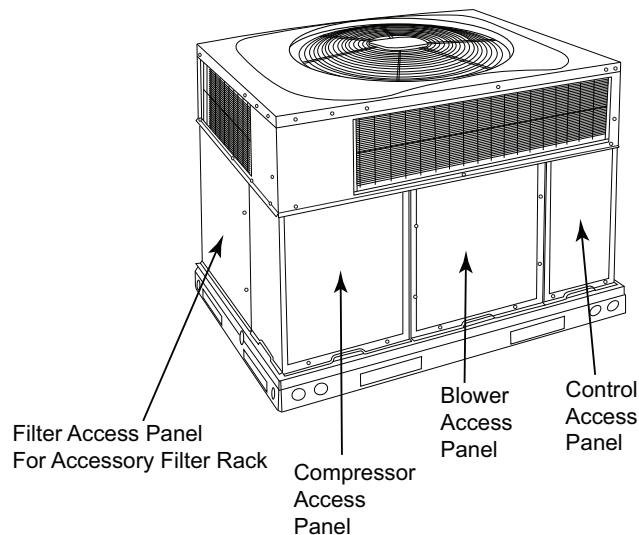
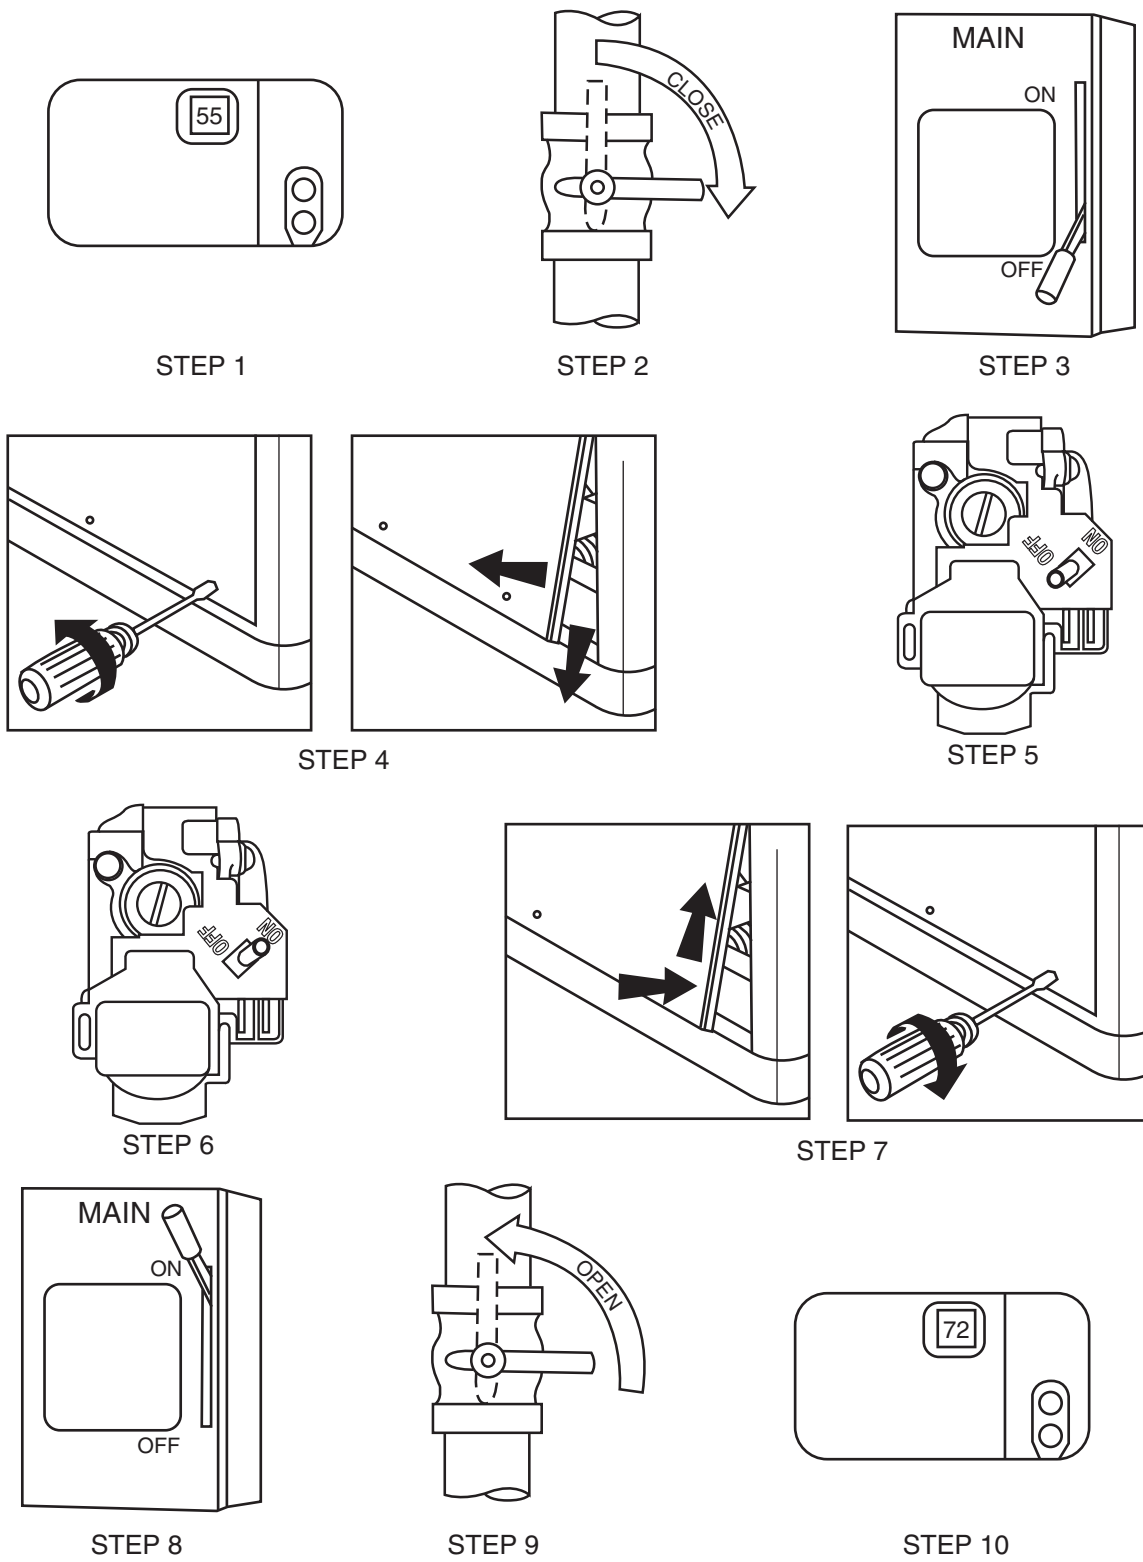

Fig. 2 - Unit Access Panel
Fig. 4 - To Start Unit Gas Heat
Refer to Fig. 2 for location of unit front access panel. Refer to Fig. 3 for location of gas valve. Refer to Fig. 4 while proceeding with the following steps.
4. Remove the control access panel with a 5/16-in. nut driver. (See Fig. 2.)
4. Remove the control access panel. (See Fig. 2.)
To replace or inspect filters in accessory filter rack (See Fig. 2):